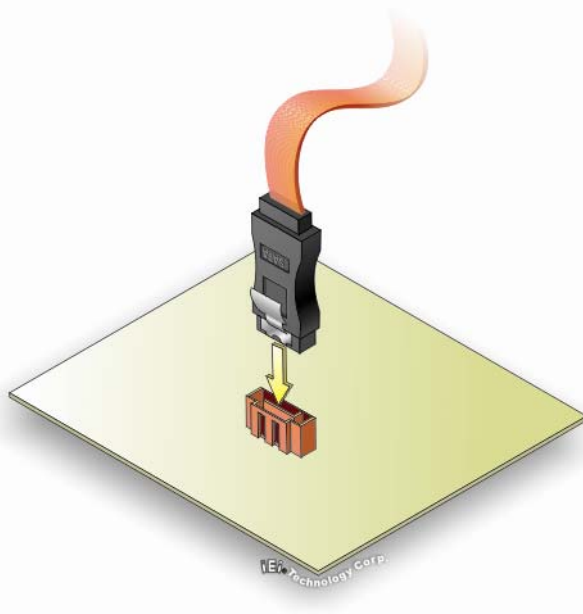

Figure 4-8: SATA Drive Cable Connection
Step 2: **Insert the cable connector.** Insert the cable connector into the on-board SATA drive connector. See **Figure 4-8**.